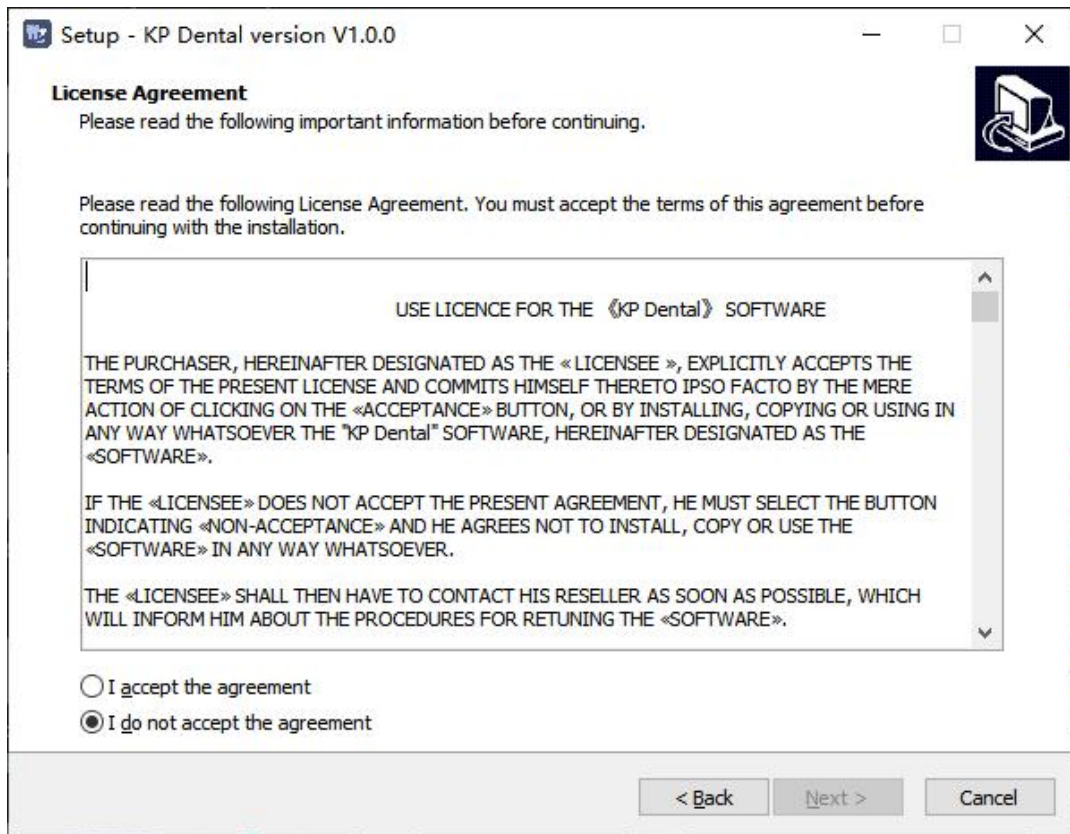

Figure 4
3.1.4 Read the software license agreement, agree to this agreement and click "I accept the agreement", click Next to continue installation, disagree with this agreement and click "I do not accept the agreement" to exit the installation program, as shown in Figure 4.